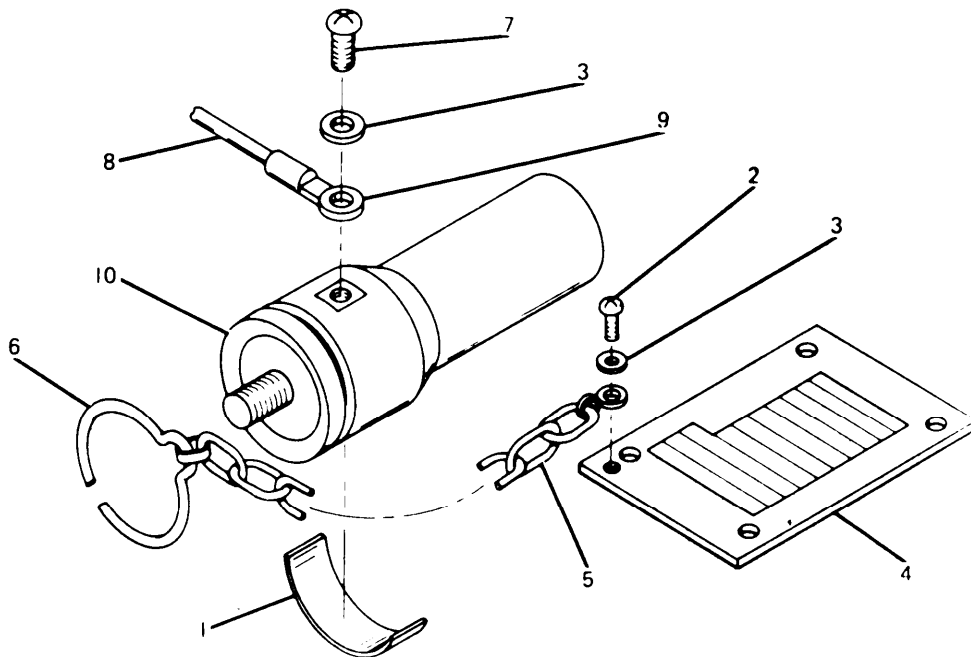

Figure 5-2. Base Assembly, parts location.
Check tightness of ground wire attachment screw (item 7, Figure 5-2) of the base assembly.
SEE BREAKDOWN, FIG. 5-2.